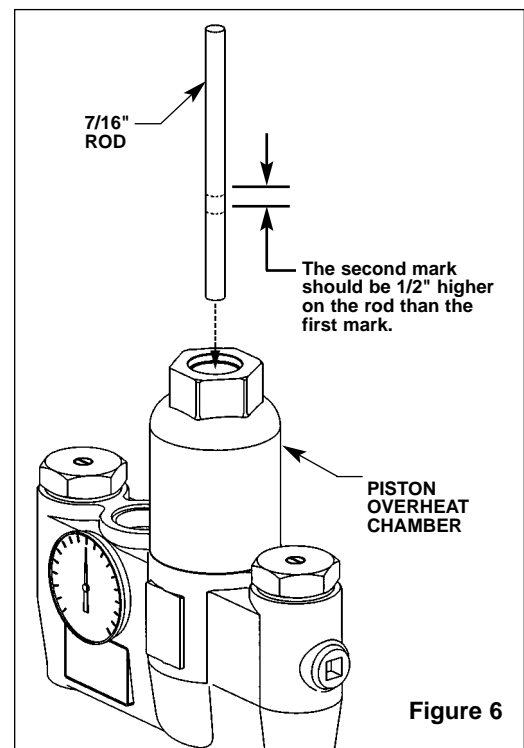

Figure 6
2. Insert a 7/16" dia. rod into the valve and into the piston overheating chamber. Mark the length of the rod inside the valve (see Figure 6).
3. Push the rod until the piston stops and mark the new length (the new length should be approximately 1/2" longer than the original length) (see Figure 6). If the length is not as it should be, the piston is not moving freely and needs to be cleaned along with the piston liner. Clean the piston and liner following the method outlined below: